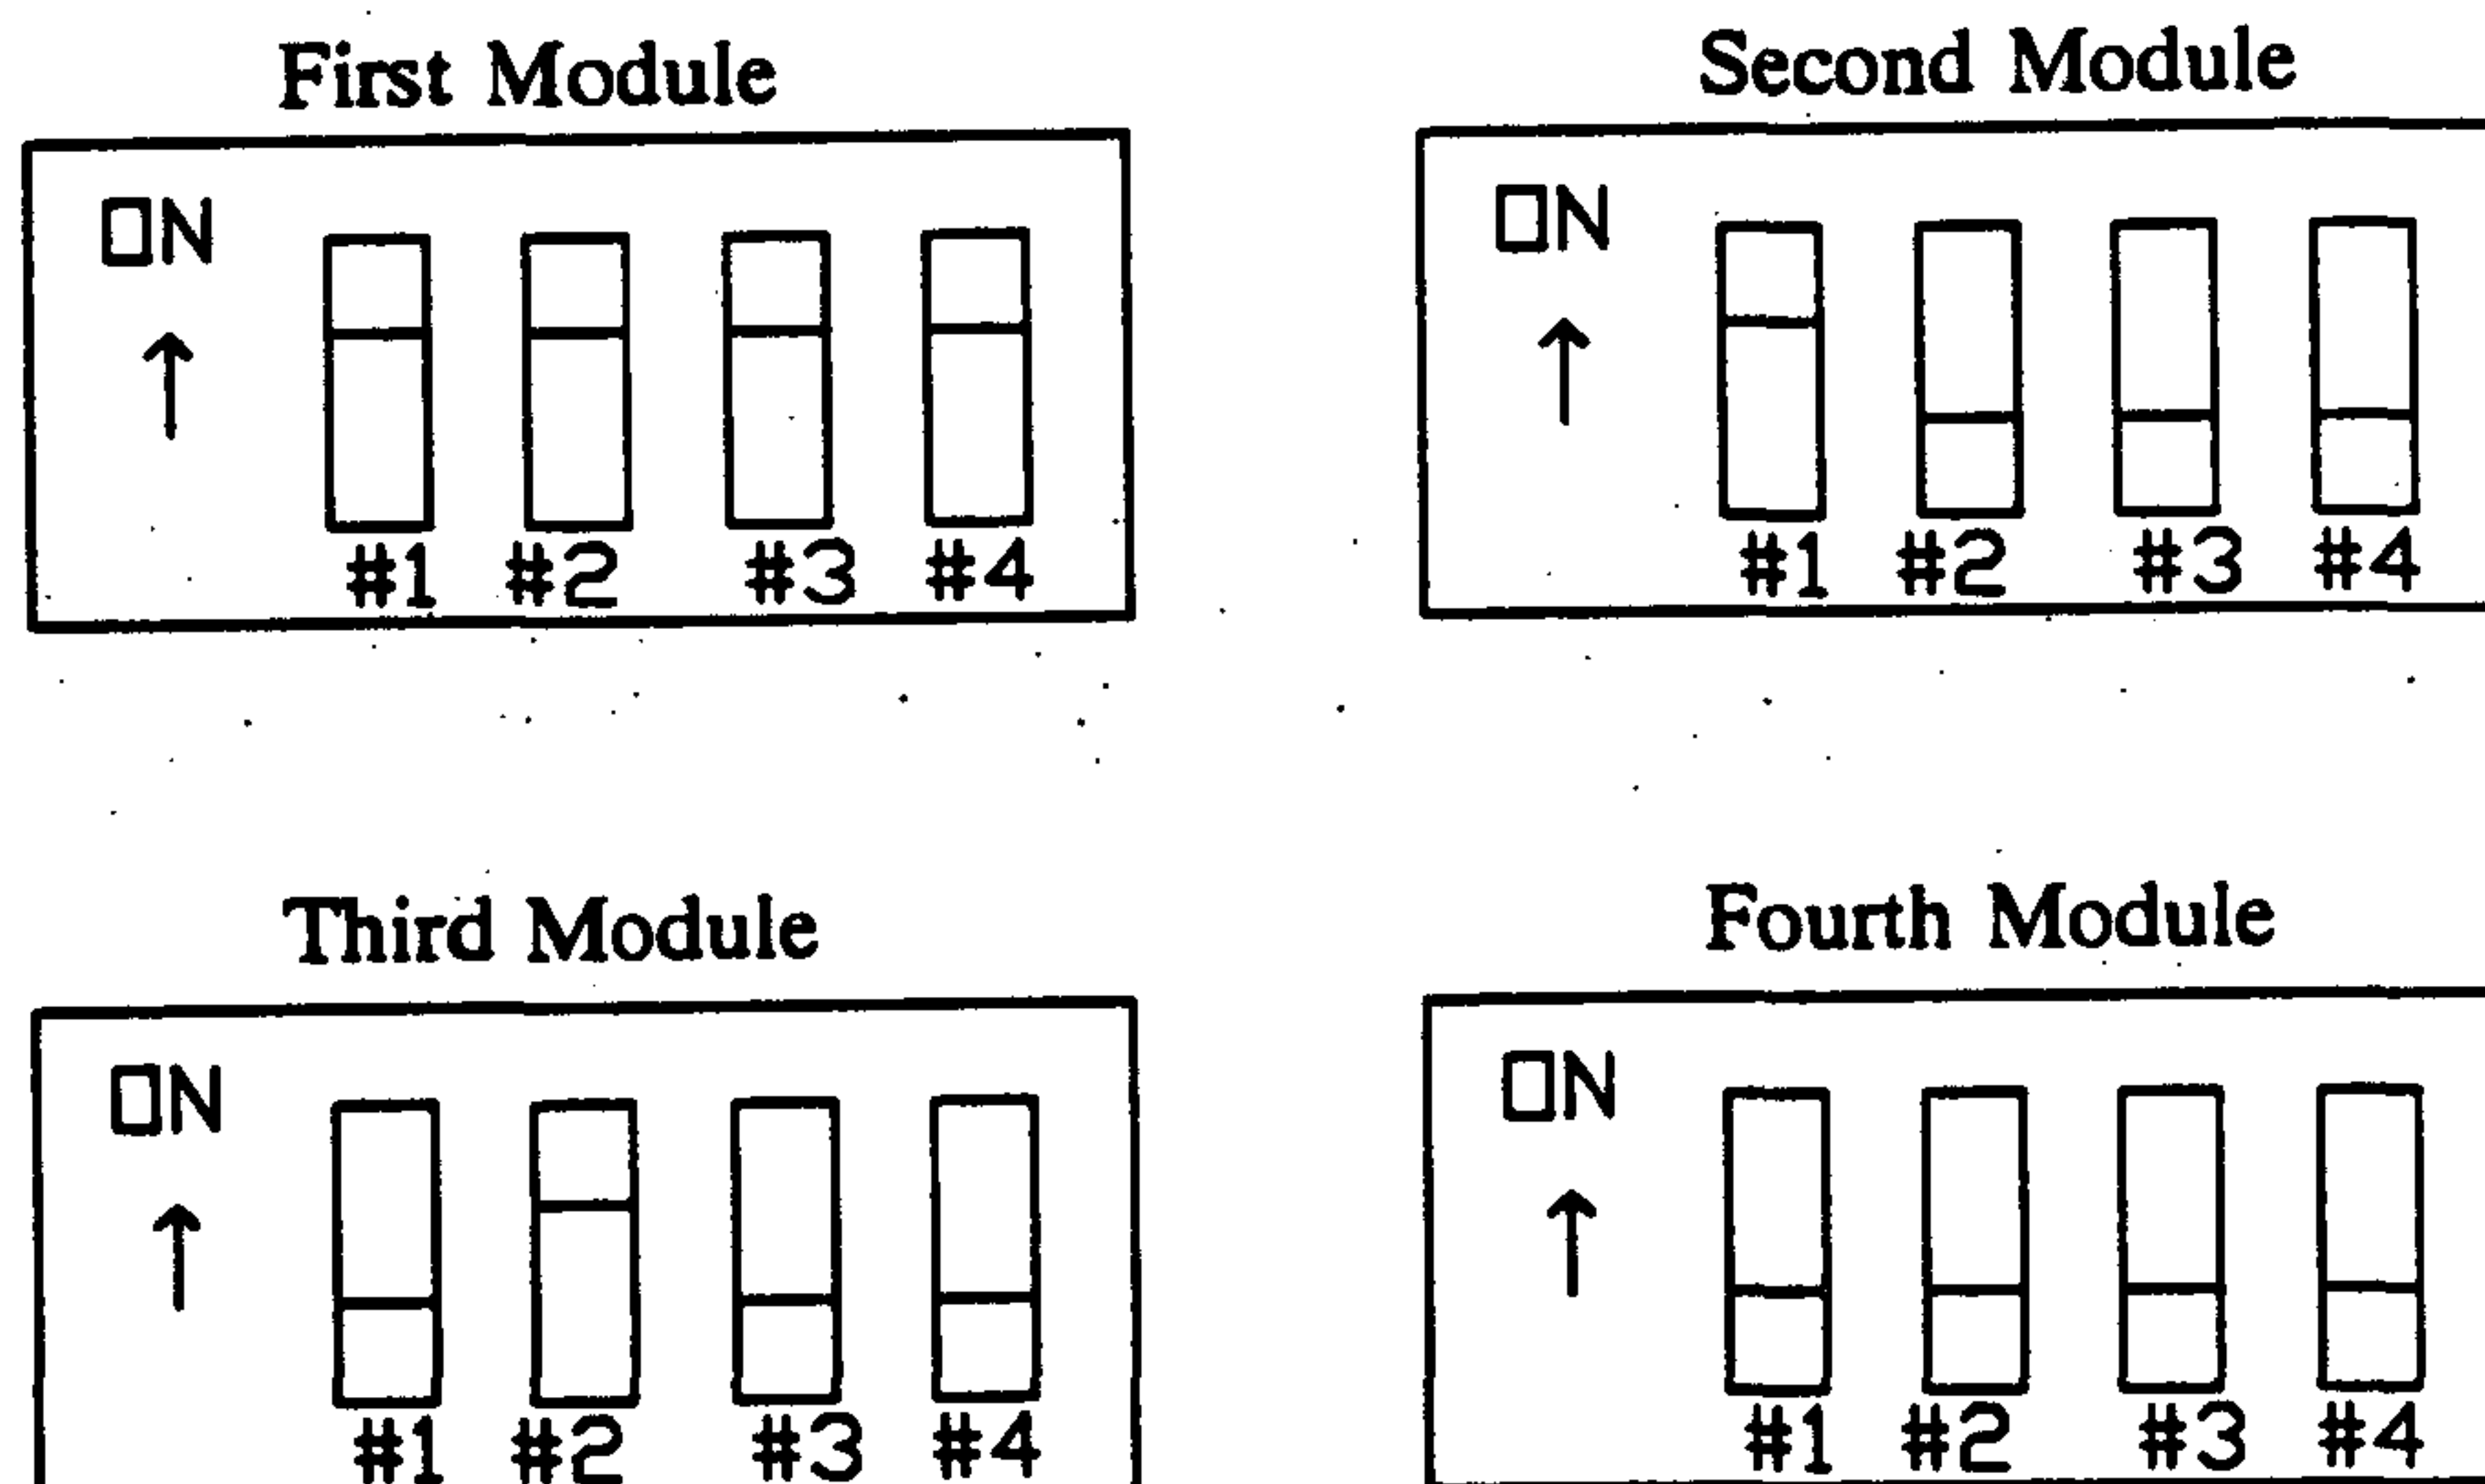

Figure 4-1. Defrost Module Dip Switch Settings.
2. Make sure that each module has been assigned its own address and that no two modules have the same address. Refer to Figure 4-1 for proper dip switch settings.